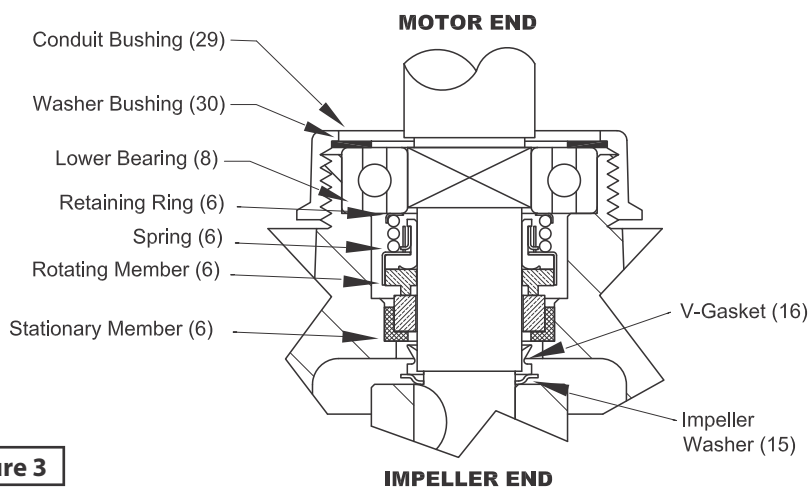

Figure 3
12. Unscrew conduit bushing (29) from seal plate (3) and lift motor rotor, shaft, bearing (8), rotating member of seal (6), washer (30) and conduit bushing (29) from seal plate (3). See Figure 3.
13. Remove seal parts (6) from shaft. Examine all seal parts, if seal faces show signs of wear, uneven wear pattern, chips or scratches replace entire seal. **DO NOT interchange seal components, replace the entire shaft seal (6).** If replacing seal, remove stationary from seal plate (3) by prying out with flat screwdriver.